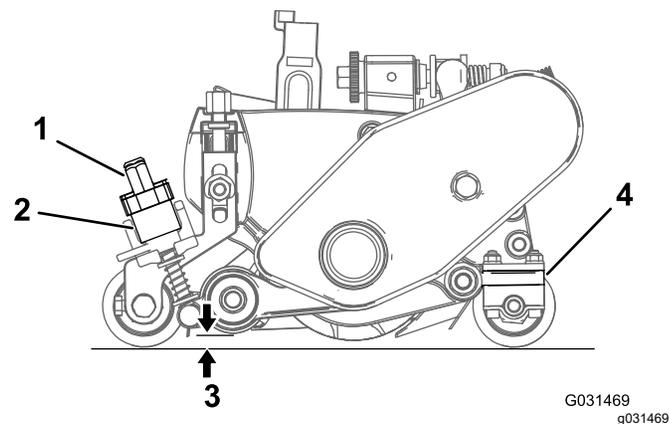

Figure 28
2. Rotate the quick-up levers (Figure 28) to the OPERATING position (the handle points toward the front of the cutting unit).
3. At the end of the groomer reel, measure the distance from the lowest tip of the groomer blade to the working surface (Figure 28). Turn
the height-adjuster knob (Figure 28) to raise or lower the tip of the groomer blade to the desired height.